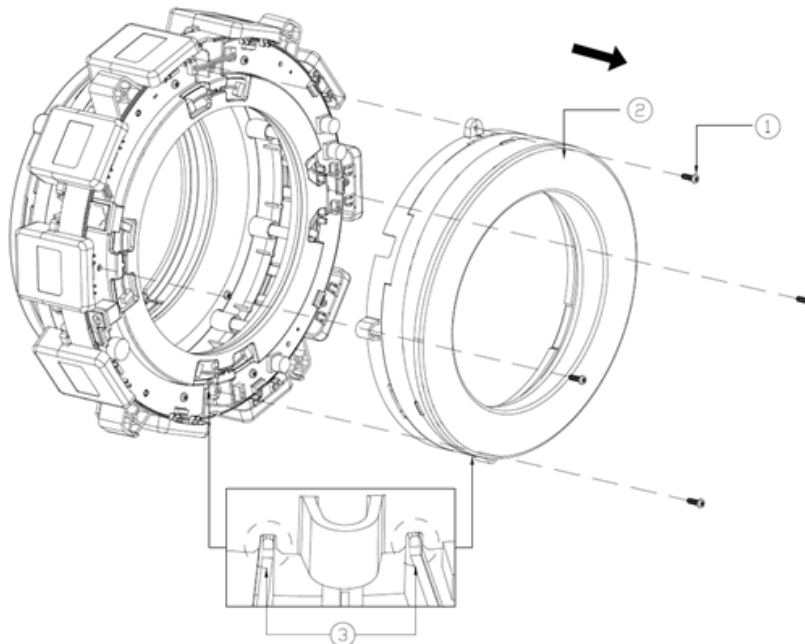

Figure 6-1
(6) Remove the Indicator Support Package
As shown in Figure 6-1, remove the 4 screws①, then move the indicator support②. The specification of the screw is the self-tapping screw, ST3*10mm.